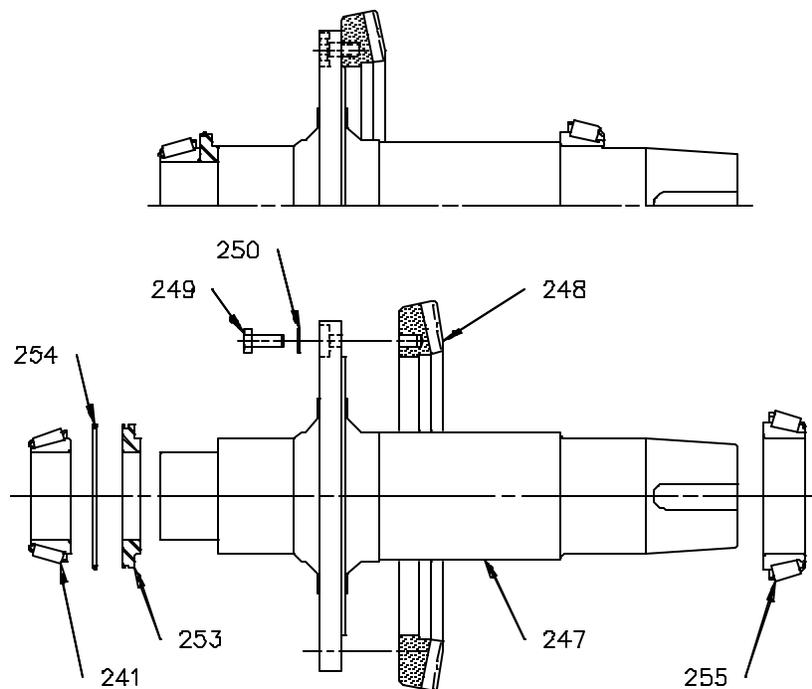

Figure 2: Output Shaft Assembly [246]
| Figure 2: Output Shaft Assembly | 5 |
14. Install a 1/2-13 eyebolt in the end of output shaft **[247]**. Lift the output shaft assembly (*Figure 2, page 5*) out of the housing.